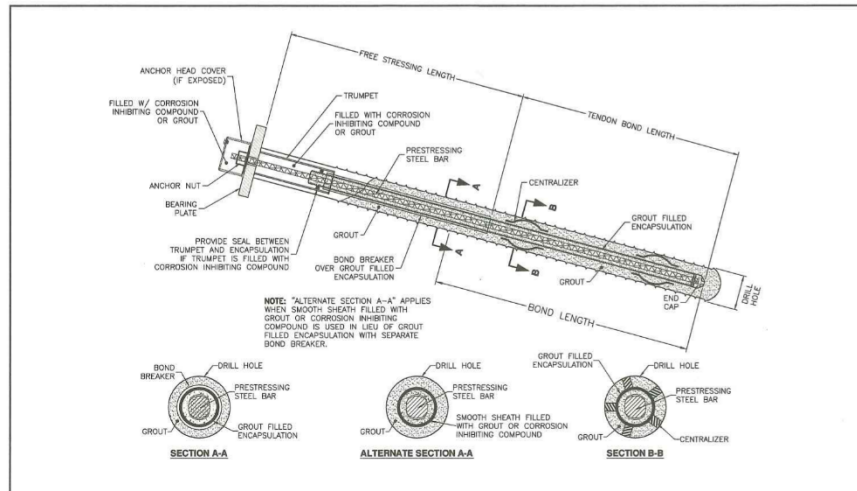

Fig. 5.2b—Class 1 protection: encapsulated bar anchor.
- Please confirm the corrugated grout sheath for Class 1 Anchors can be omitted above the bond length (PTI Fig 5.2b – Class 1 protection Alternate section A-A)